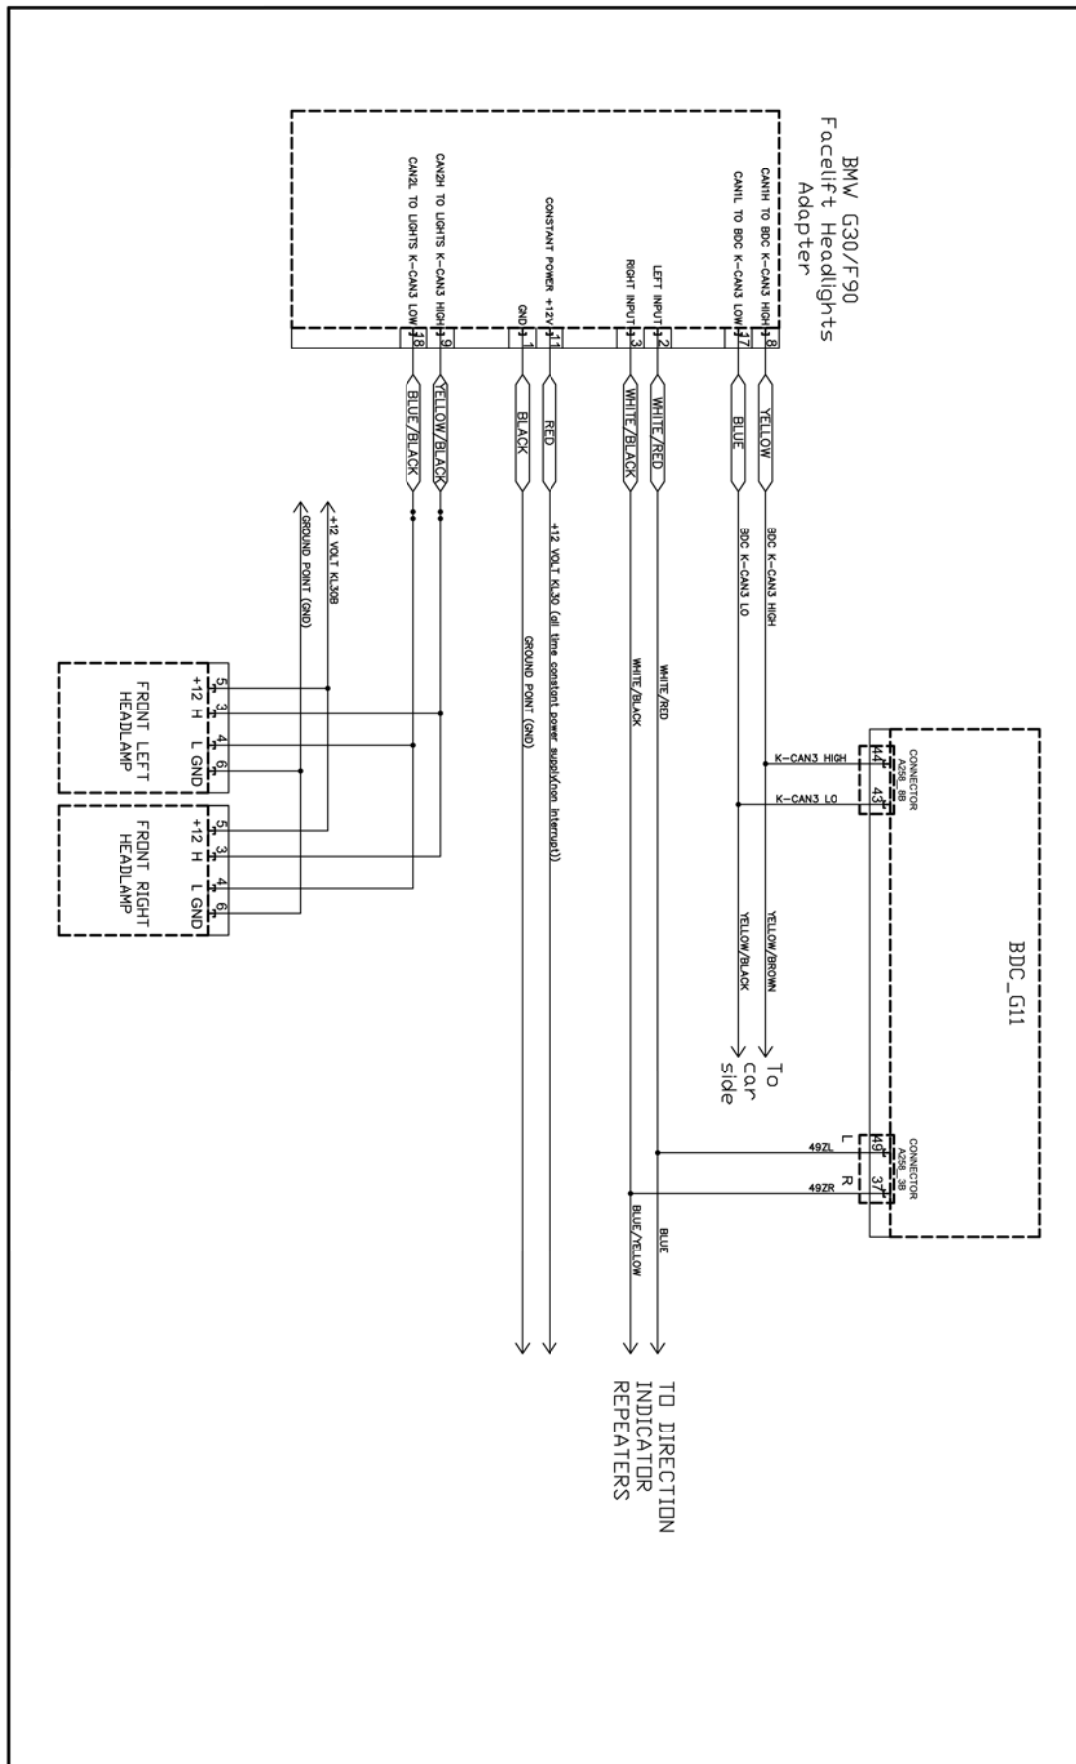

Fig. 2 Adapter connection schematic diagram
Connection of the " BMW G30/F90 Facelift Headlights Adapter" should to do according to schematic shown in Fig.2, using the supplied cable (Fig.1c). «System» connector pinout and designation you can see at Table 1. Cable consists of 18-pin socket for connecting to the adapter «System» connector and wires for connect to CAN bus, direction indicators and power.
- 5) Connect power 12V according to Adapter connection schematic diagram (Fig.2)